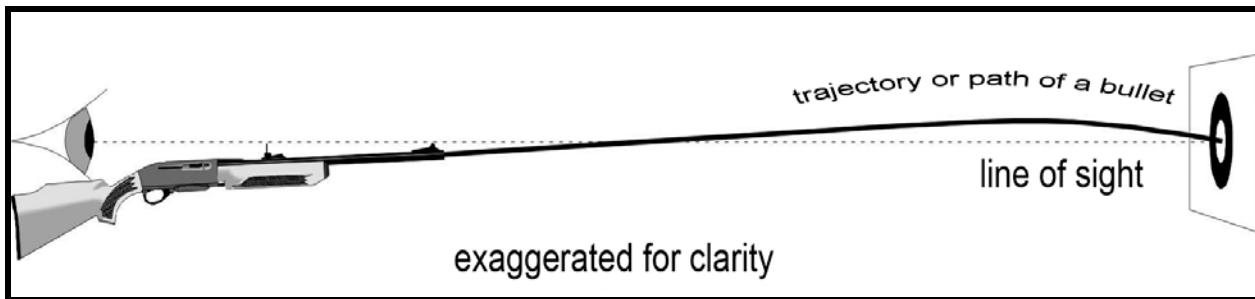

Figure 39. Trajectory of a bullet
- a. Is the path a discharged shot or bullet takes during flight (Figure 39). Several factors affect this path; examples include, but are not limited to, the following: